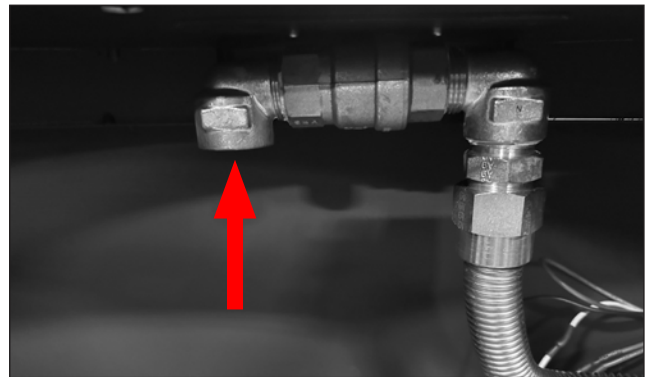

Figure 10: Gas Connection
4. Remove four (4) T-20 screws securing the log tray to fire pit chassis and lift the media tray up.
6. **Gas Connection:** Connect gas to the inlet on the open side of the shutoff key valve. Use 3/4 in. fittings only. See Figure 10.
5. remove eight (8) T-20 screws securing the log tray to fire pit chassis and lift the media tray up.
6. Connect gas to the inlet on the open side of the shutoff key valve. Use $\frac{3}{4}$ in. fittings only. See Figure 10.